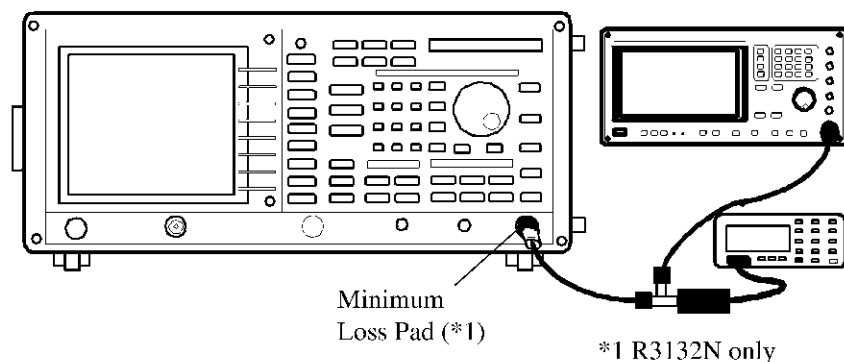

Figure 5-16 Setup of Frequency Response Test
4. Connect the power meter, the signal generator and the power splitter as shown Figure 5-16.